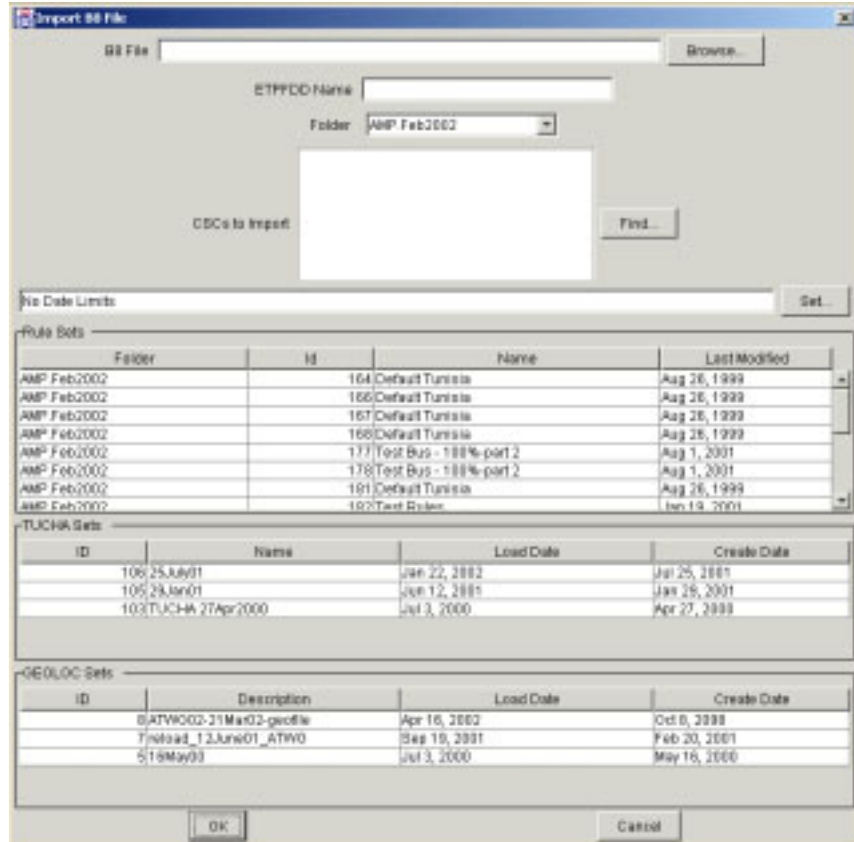

Figure 5.27 Import B8 File Window
1. On the ETEdit (main) window, on the File menu, click Import B8. The Import B8 File window opens (Figure 5.27).